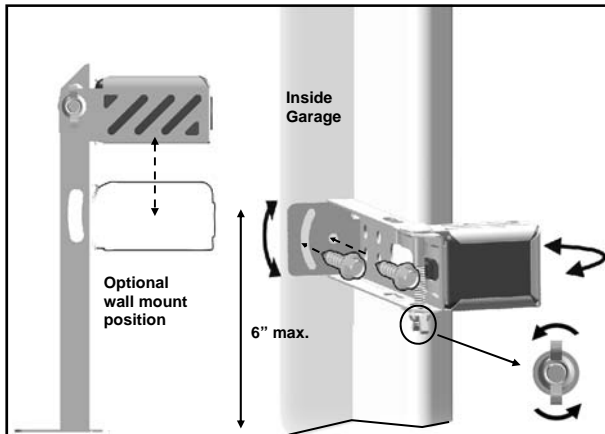

Fig. 1 (Wall Mount)
1. Place the Photo Eyes facing each other on each side of the garage door. Position the sensors so they are no higher than 6" (15cm) above the floor, as shown in Fig.1.
4. If necessary use the Optional Wall-mount Position (Fig.1) to better fit your door-track and improve obstacle avoidance. To adjust the position, loosen the wing nut, disassemble the Bracket and move the Photo Eye to the lower position on the holder.